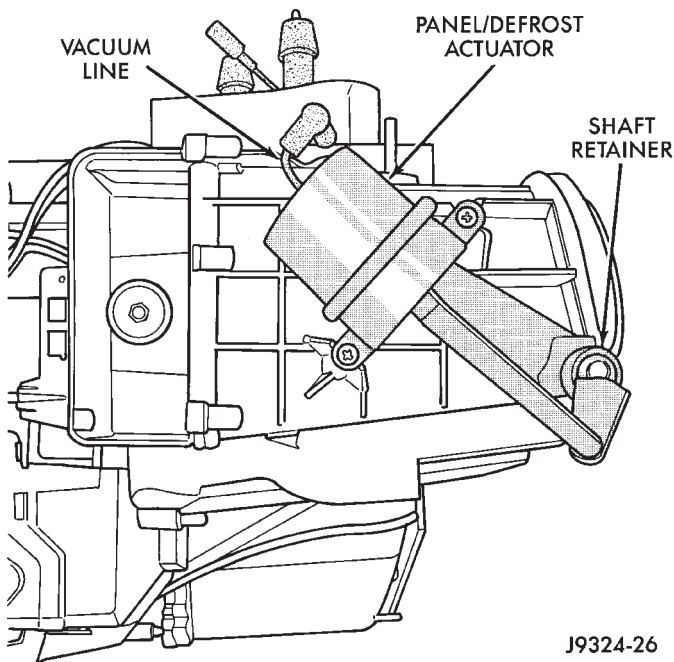

Fig. 62 Panel/Defrost Door Actuator
- (1) Remove the heater-A/C housing as described in this group.
- (2) Unplug the vacuum harness connector from the panel/defrost door actuator (Fig. 62).